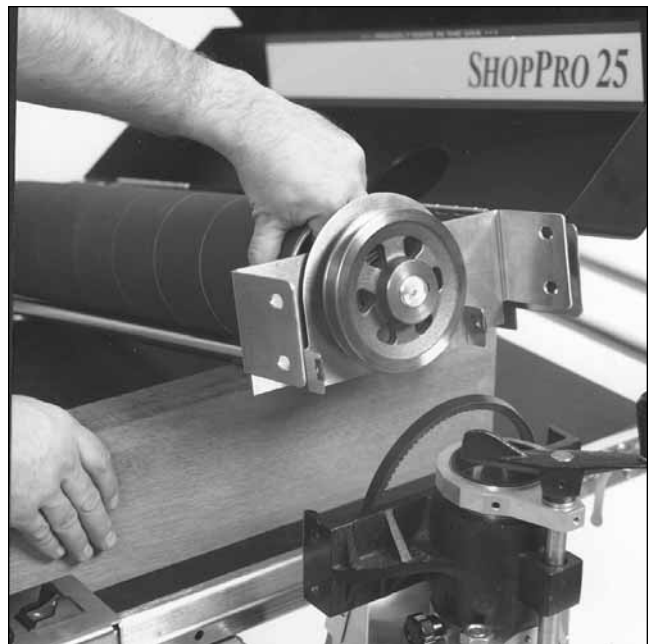

Fig. 39. Supporting drums to remove bearings.
3. Lift the right (inboard) side of drum and place a 2x6 on edge under the drum. Loosen and remove the V-belt pulleys from drum shafts (see Fig. 39). **Important:** Make sure to note the location of the pulley. Also measure the distance from pulley edge to the drum support casting to use as a reference when reinstalling pulley so they will be properly aligned.